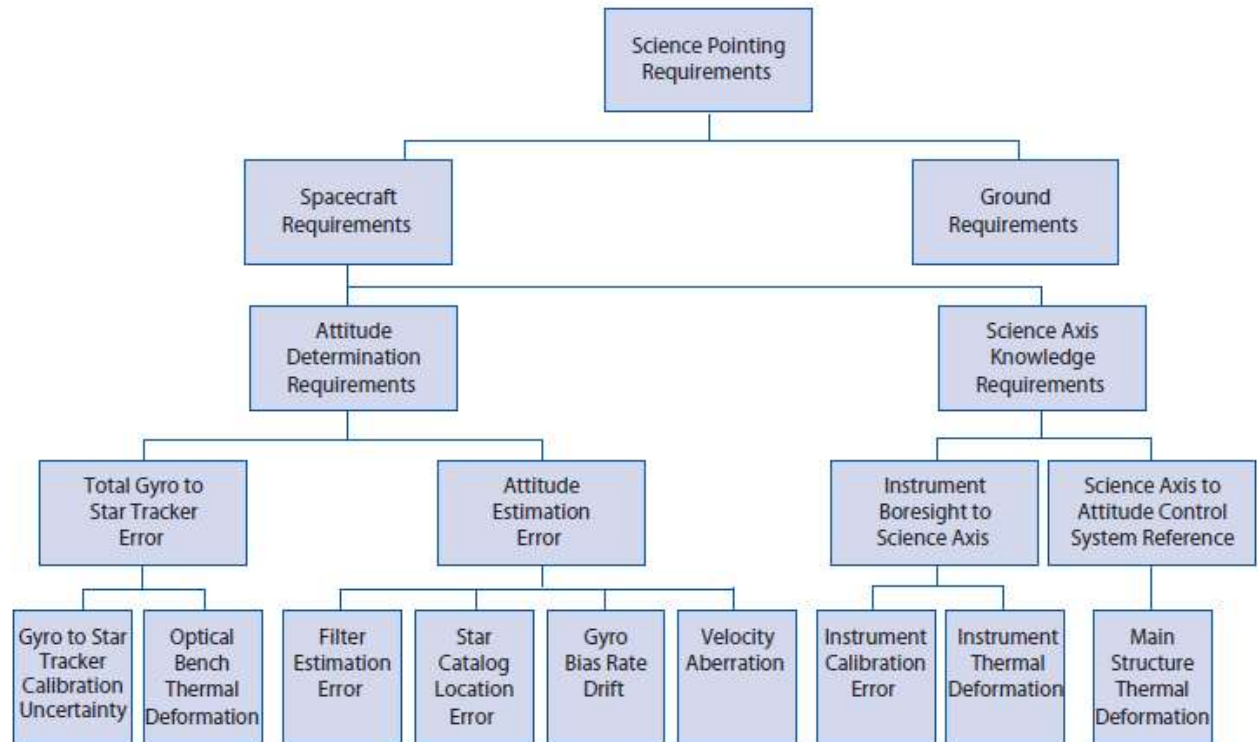

Figure 4.2-4 Allocation and flowdown of science pointing requirements
- Technical requirements list and flowchart (Fig 4.2-4)